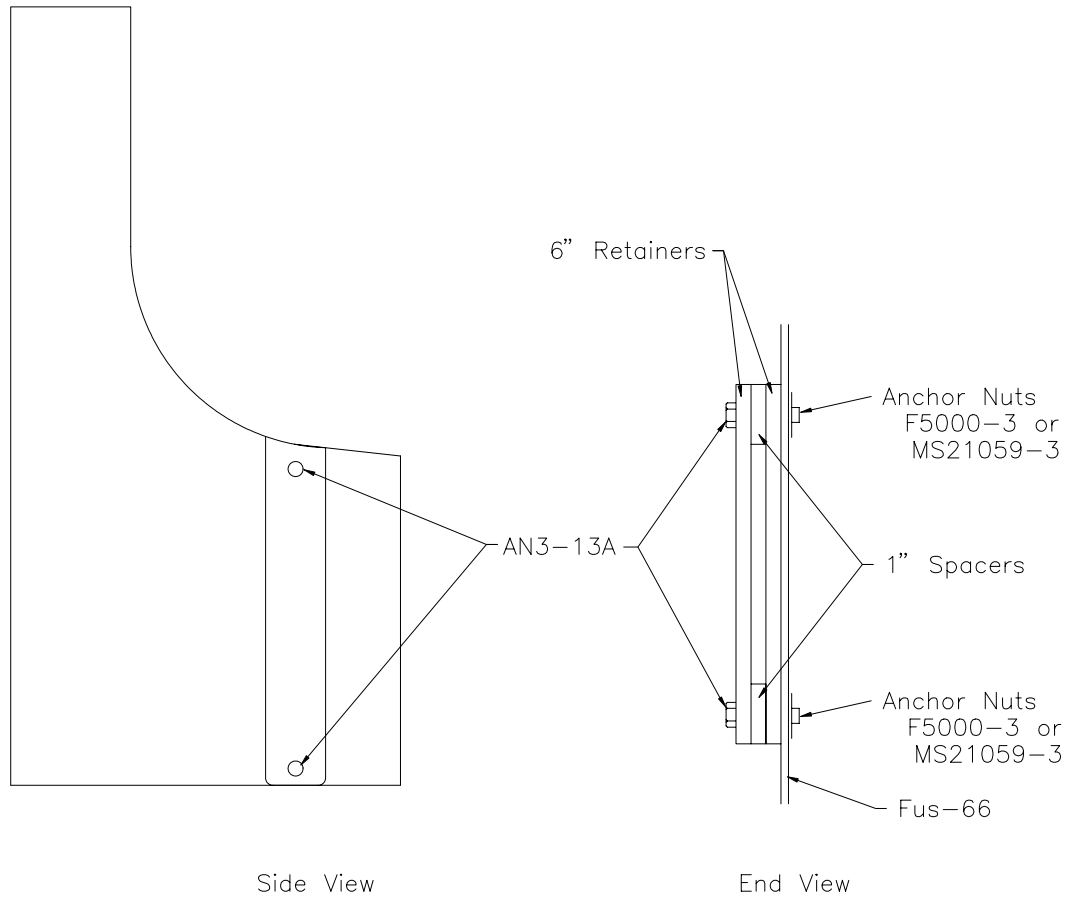

Figure 15.7.10
17) Bolt the retainers into position with AN3-13A bolts. AN970-3 penny washers may be needed to space the retainers away from the door post doubler, to prevent the fork end of the teleflex cable binding against the doubler. Figure 15.7.10.